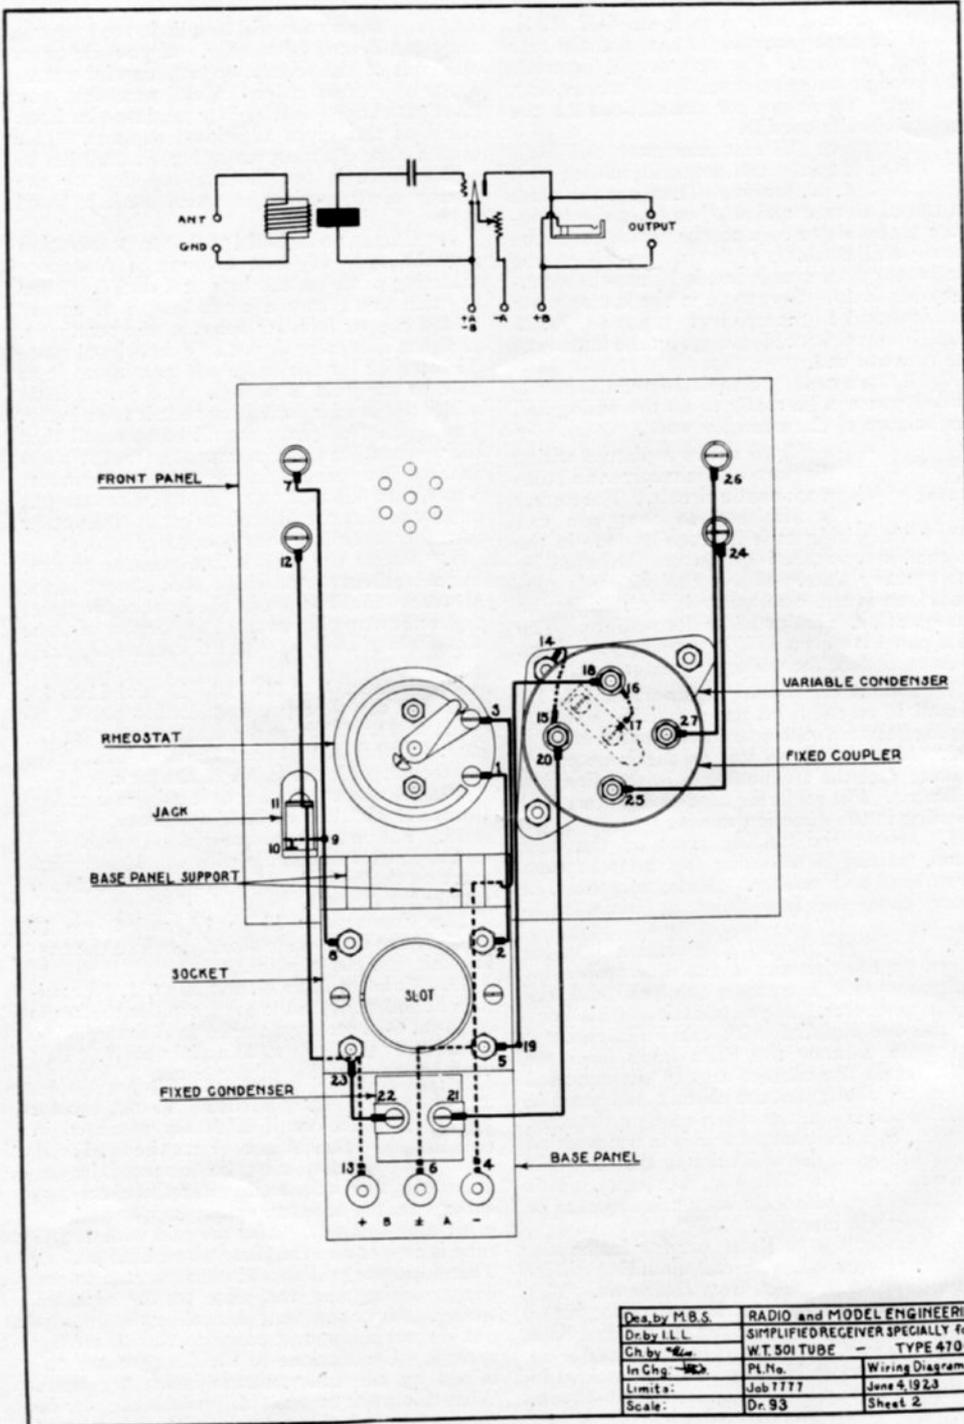

Fig. 6. Schematic and picture wiring diagrams of the receiving set. Note that there are only twenty-seven soldered connections
You will notice that the picture wiring diagram in Fig. 6 calls for only 27 connections, a number much lower than will be found in almost any other set. A particularly commendable feature in the outfit is that there are no switch points to solder.
Next remove the rear condenser end plate and fasten it to the coil mounting pillars with  $\frac{1}{2}$ -in. 6-32 R. H. screws. Then put the plate on the condenser again and connect the secondary terminals to lugs on the terminals of the rotary and stationary plates. In Fig. 6 the stationary plate connection is 14 and the secondary lug is 15. Seventeen is the rotary plate terminal and 16 the coil lug. Then 18, 20, 25 and 27 represent the four lugs on the outside of the rear coil end.
Fig. 6 shows a picture wiring diagram of the receiver and also a schematic circuit. The former is furnished so that you can follow the wiring as it is actually done in the finished set. Soldering lugs are indicated by short heavy lines. Where the wiring is concealed, as is the case where it runs under the base panel, it is indicated by dotted lines. The base panel is shown as if it were dropped down so as to disclose the wiring in greater detail.
3. Mount the binding posts on the base panel, putting a soldering lug between each screw head and washer. Make sure that, in every case, the lugs point as indicated in Fig. 6.
4. A Sleeper Radio Corporation knob is shown on the rheostat in the illustrations for the reason that it matches the knob and dial on the condenser. If you substitute this knob for the one supplied with the Fada rheostat you must unscrew the Fada knob from the shaft, fasten the contact arm to the threaded end of the shaft, put the contact and shaft in position and fasten the other knob on the shaft so that, when the contact arm is in the position shown in Fig. 6, the white line of the knob will coincide with the line on the panel. This should be done before the socket is mounted or the socket will interfere.
5. One-inch 6-32 R. H. screws fasten the socket to the panel, with coil mounting pillars to hold the socket back from the panel. You can see this arrangement in the photographs and in Fig. 6, where the pillars are marked Base Panel Support. If you have any trouble in getting the screws into the bushings molded in the socket base, clean them out with a 6-32 tap.